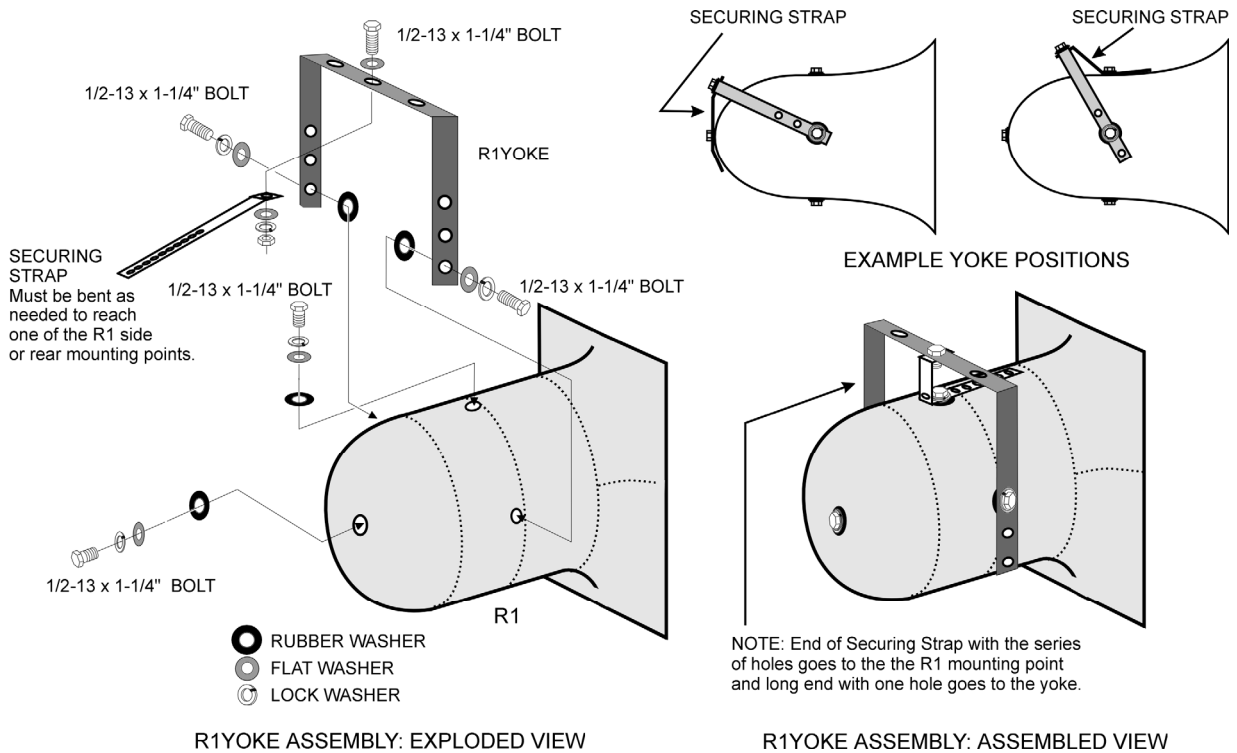

FIGURE 4: R1 YOKE Assembly
8.3.2 R1 YOKE MOUNTING PROCEDURE (See FIGURE 4)
The high frequency driver has a field replaceable driver/voice coil assembly. The high frequency horn/driver assembly is retained by brackets secured to the inside of the bass horn and eyebolts secured to the LF driver. To remove the driver, first remove the grille. Then disconnect the Molex plug from the side of the cylindrical phase plug housing behind the HF horn itself. Remove the 4 Phillips head screws that attach the eyebolts to the LF driver frame. Then detach the entire HF driver/horn/LF phase plug assembly from the enclosure by removing the four 1/4-20 hex head bolts and nuts that secure the HF brackets to the R1 bass horn. Note the orientation of the horn assembly to the enclosure so as to re-install it correctly. Remove the 4 Phillips head screws from around the rear horn flange and lift out the HF driver. Detach the wiring to the driver noting the polarity of the connections for later correct attachment (See FIGURE 4). The driver may then be unbolted from the HF horn.
This driver is accessed by first removing the high frequency horn/driver assembly as detailed in SECTION 10.3. The low frequency driver can then be removed by unscrewing the 4 remaining Phillips head bolts from the enclosure. Detach the wiring to the driver noting the polarity of the connections for later correct attachment (See FIGURE 4). To reinstall, reverse this procedure.